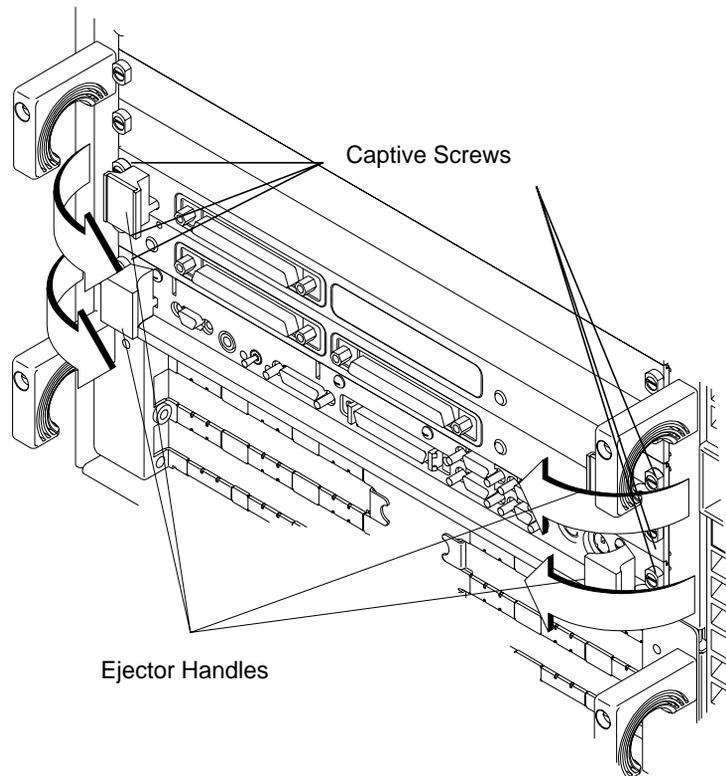

Figure 2-14
- 16 Engage all captive screws before tightening each screw of the board computer/PMC assembly. See Figure 2-14